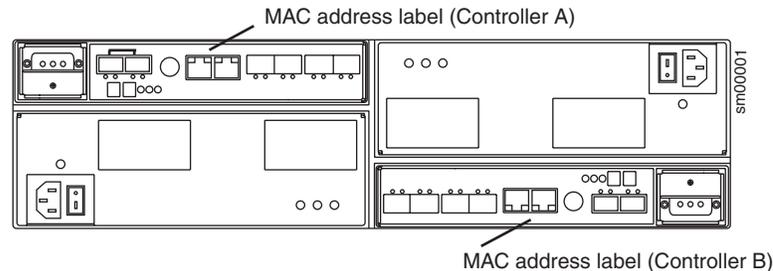

Figure 13. Location of MAC address on DS4700 RAID controllers
**Note:** You can access the controllers from the back of the DS4700 chassis as shown in Figure 13.